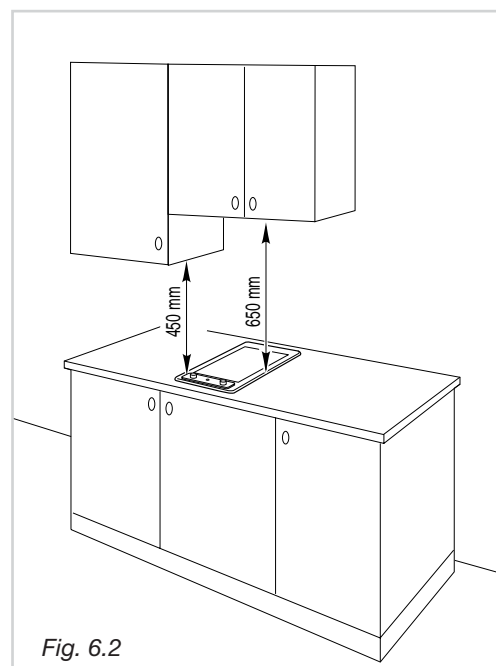

Fig. 6.2
- there must be a distance of at least 650 mm between the hob and any wall cupboard or extractor hood positioned immediately above (see fig. 6.2)